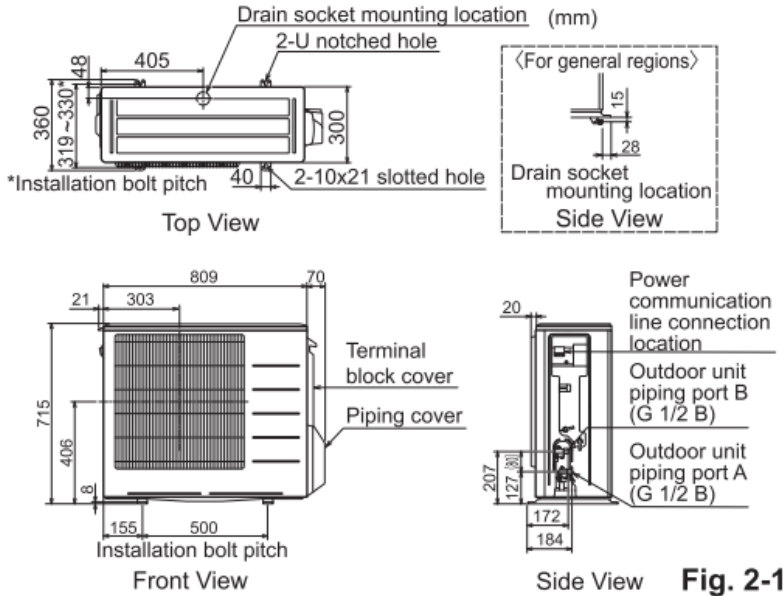

Fig. 2-1
2.2. Outline dimensions (Outdoor unit)(Fig. 2-1)